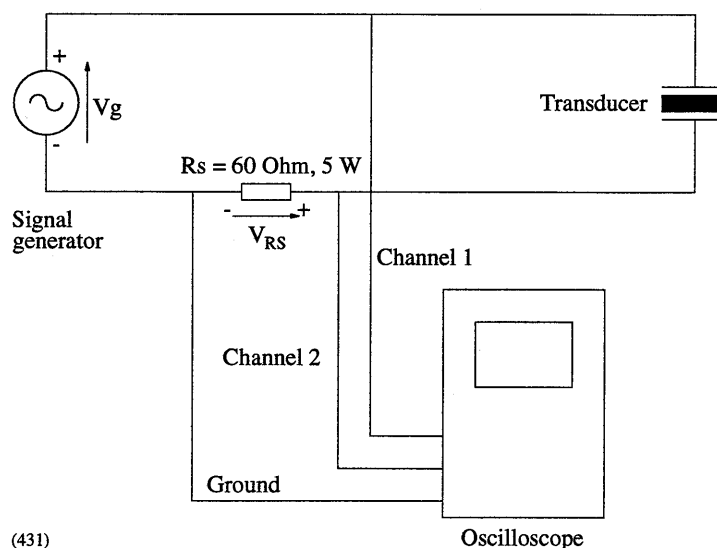

Figure 1 Test set-up for ITI vessel transducer
- 1 Disconnect the transducer cables from the transceiver board in the transceiver unit. Connect a 60 Ω , 5 W resistor in series with the transducer as shown in Figure 1. Connect the signal generator and the oscilloscope as shown.